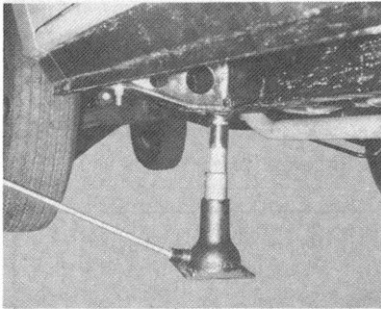

Fig. 36
- Place jack at recommended jacking point. (See Fig. 36 & 37.)